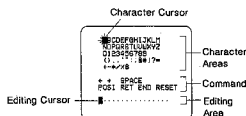

Fig. 22
- Move the cursor to the "CAMERA ID" mode position and press the Set Switch (11) to display the Character Editing menu as shown in Fig. 22.
- The camera ID moves faster when any of the Up Switch (A) (10), Down Switch (V) (7), Left Switch (<) (9) and Right Switch (>) (8) is kept pressed for more than 0.5 seconds.
- After completing the positioning of the camera ID, press the Set Switch (11) to return to the Character Editing menu as shown in Fig. 22.
- To return to the normal camera picture mode, move the character cursor to the "END" position and press the Set Switch (11).
- To return to the Setup menu for setting other items, move the character cursor to the "RET" position and press the Set Switch (11).